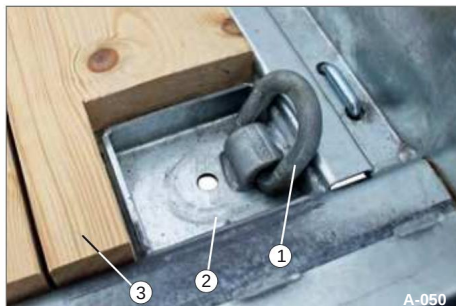

Fig. 54 Surringsring foldet ind
• Løft surringsringen (fig. 54/1)